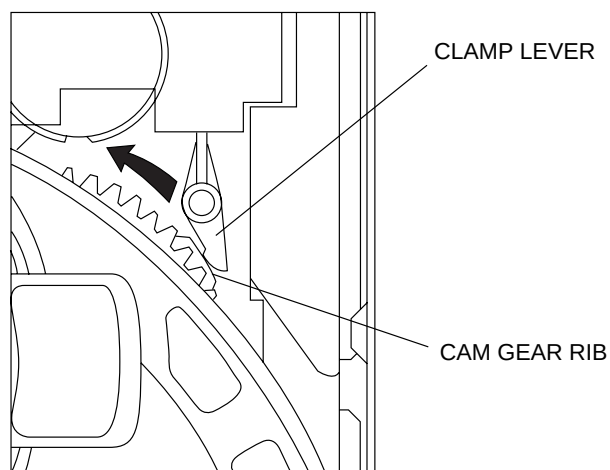

Figure 9-2
2. While holding the lock lever, rotate the cam gear anticlockwise until the cam gear rib engages with the clamp lever. (Fig. 9-2)